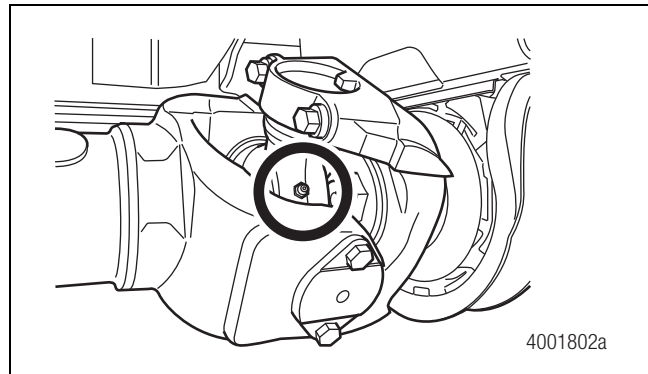

Figure 4.9
1. Check that all grease fittings are installed. Replace missing or damaged fittings. Tighten them to 6 lb-ft (8 N•m). Figure 4.9.